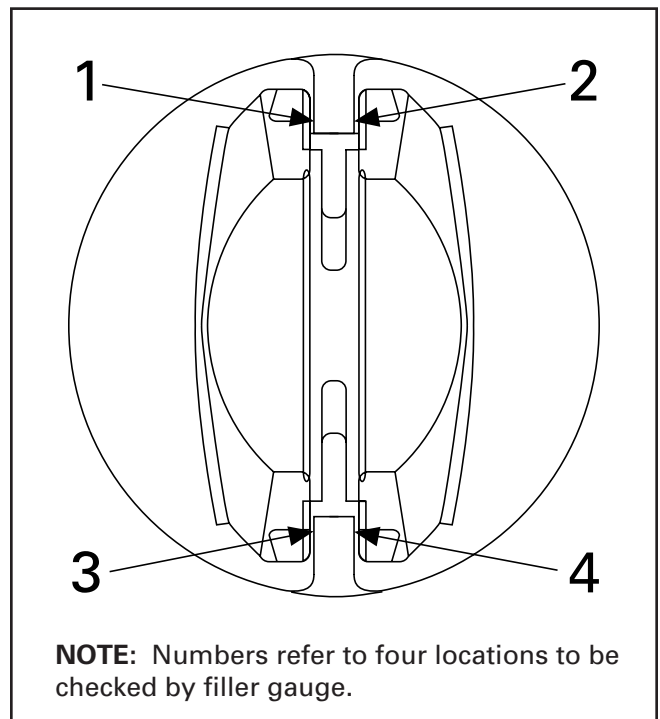

Figure 5.2K Clearance verification
- When fitting a wedge, it is also important that the clearance between the wedge and the wedge guide slots be checked with a feeler gauge at four locations, as shown in Fig. 5.2K. Ideally, the clearance on both sides should be the same, however, a minimum clearance of 0.005" (0.12 mm) at any position along the length of the guide must be maintained.